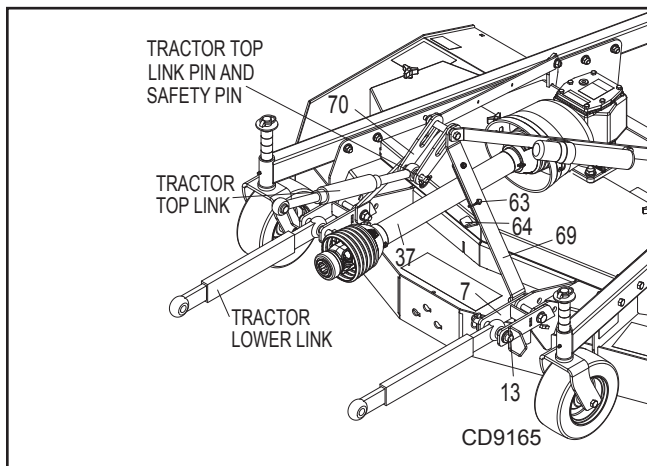
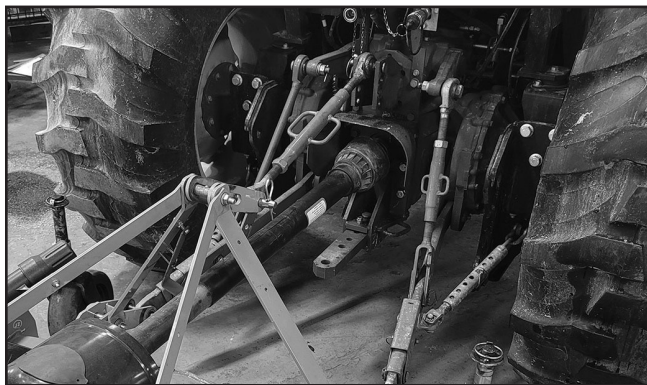
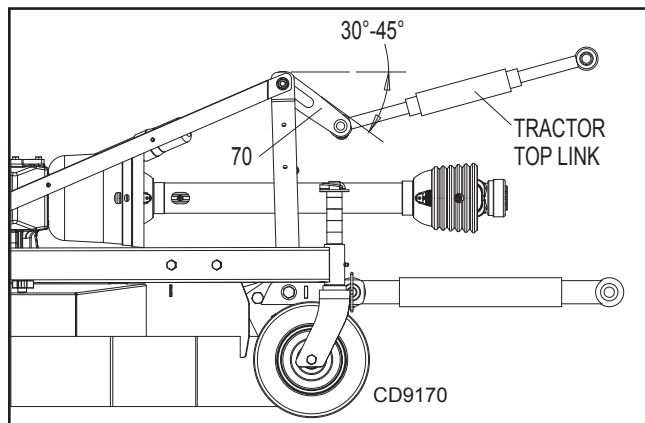

Figure 2. Attachment Points
Figure 3. Attach Mower to Tractor
Figure 13. Top Link Adjustment
Category 1 Hitch (Figure 2 & 3)
2. Connect tractor lower lift arms to mower lower hitch links (7) using clevis pin (13) and retain with klik pin. (See Figure 2)
3. Connect tractor top link to mower top hitch links (70) using tractor top link pin. Retain with cotter or klik pin.
4. Adjust tractor top link until mower top hitch links point downward until it is between 30 and 45 degrees below horizontal. This will allow the mower to follow the ground contours when mowing. Secure tractor top link jam nut. (See Figure 3. Additional information in Figure 13).
5. Remove the mower driveline (37) from the holder (64) and connect to the tractor PTO shaft. Be sure the driveline QD is seated firmly in the tractor PTO spline groove.
7. Remove the safety pin (63) from the left a-frame bar (69) and swing the drive holder (64) up into the storage position. Reinsert safety pin thru a-frame bar and drive holder to secure in place. (See Figure 2).
When the cutting height is set, adjust tractor top link until mower top hitch links (70) point downward between 30 and 45 degrees below horizontal. Secure tractor top link jam nut. The front tires of the mower will lift off the ground before the rear tires when raised. This will allow the mower to follow the ground contours when mowing. (See Figure 13)